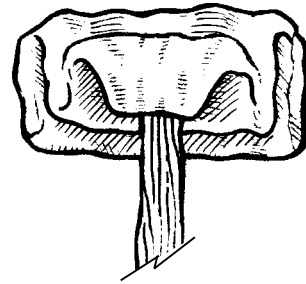

FIG. 4
5. At this point, refer to the directions by the canopy manufacturer for flaking and folding the canopy. After flaking and folding it should resemble (FIG. 4).
6. Stack the canopy in "S" folds as shown in (FIG. 4).